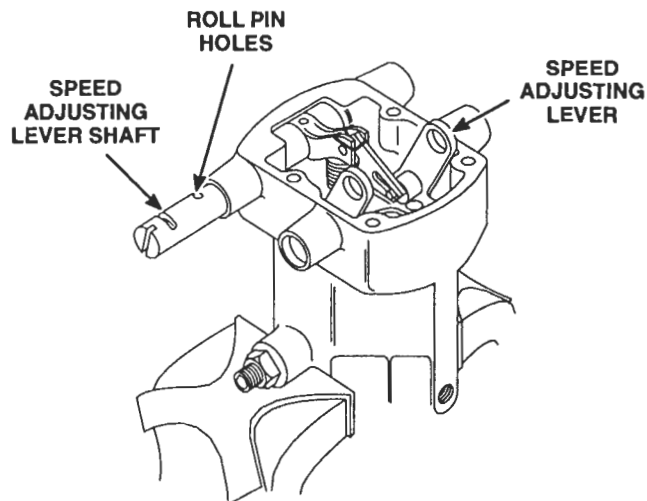

Figure 17. Installing Speed Adjusting Lever Shaft in Governor Housing and Adjusting Lever
- b. Lubricate the speed adjusting lever shaft with engine oil. Rotate the shaft so the machined slot in the outside diameter of the shaft is in the same position it was in at the time of removal. Then insert the shaft in the shaft bushing in the housing from the oil inlet plug side, with the roll pin hole in the shaft and lever in alignment (Figure 17.)